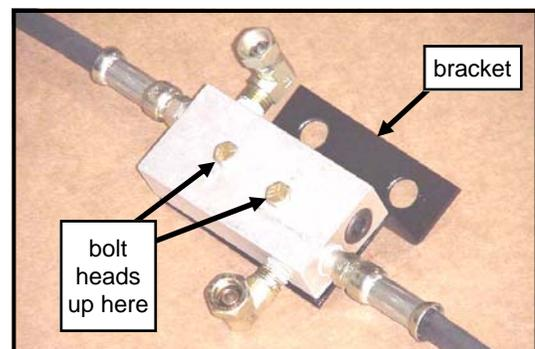

Fig. 4.2—Bracket Assembly
4.2 Per fig. 4.2, attach the bracket to the bottom of the block using two bolts and two lock nuts as shown.